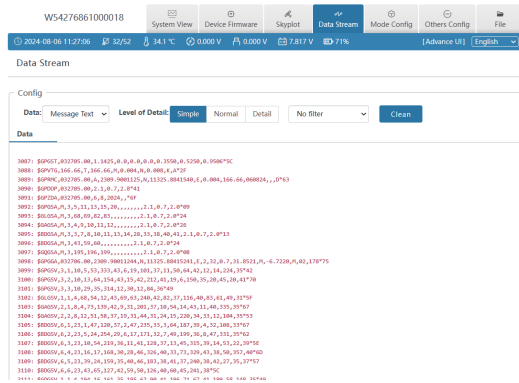

Figure 2.4-2
1.Message Text: see 2.9 in this section for the configuration of message text, and the output is shown in Figure 2.4-2: